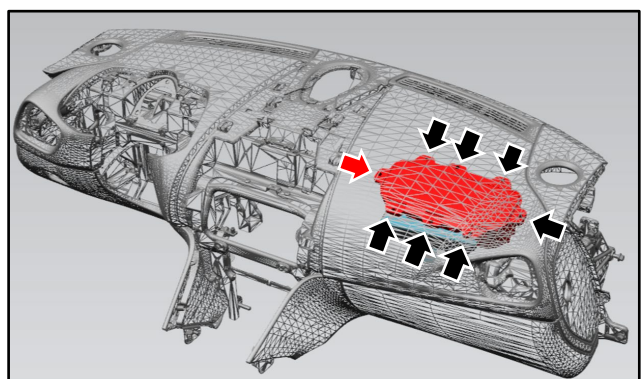

Figure 3
4. Use a fibre-optic camera to inspect the seven locking nuts that are accessible in the locations shown (refer to Figure 3).